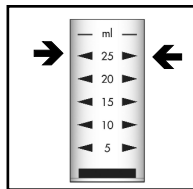

Figure 2
2. Fill the sample cup to the 25 mL mark with the sample, being careful to minimize turbulence (fig 2).